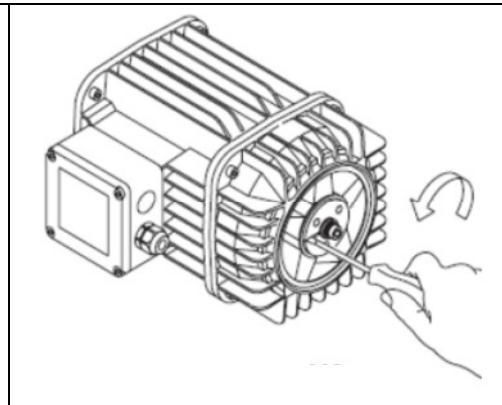

fig.48
5. Remove the ring nut from the shoe unlocking it. If necessary put a screwdriver in the slot (fig. 48);